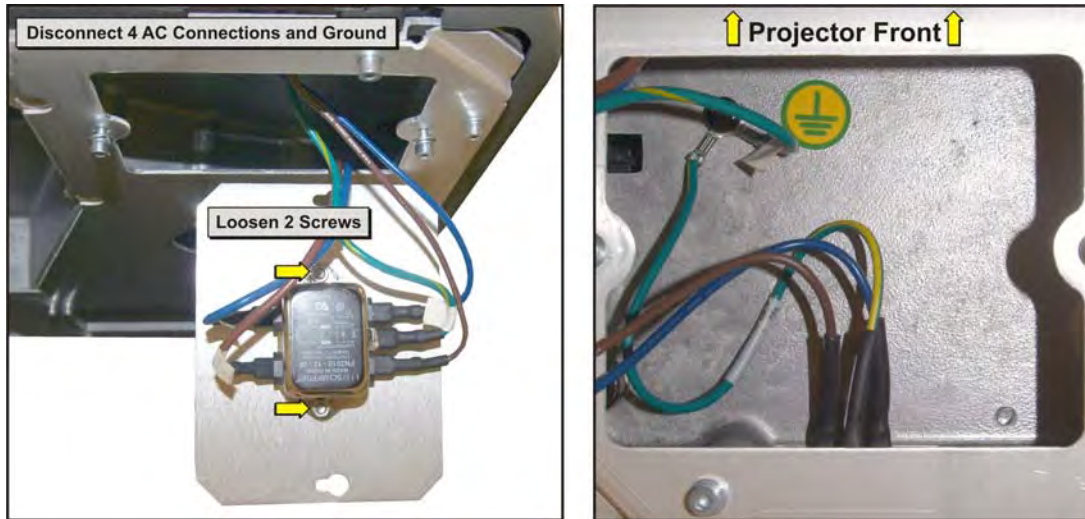

Figure 5-48 AC Terminal Block
3. Using a #2 Phillips™, remove the two screws securing the AC terminal block to the baseplate. **(Figure 5-48)**